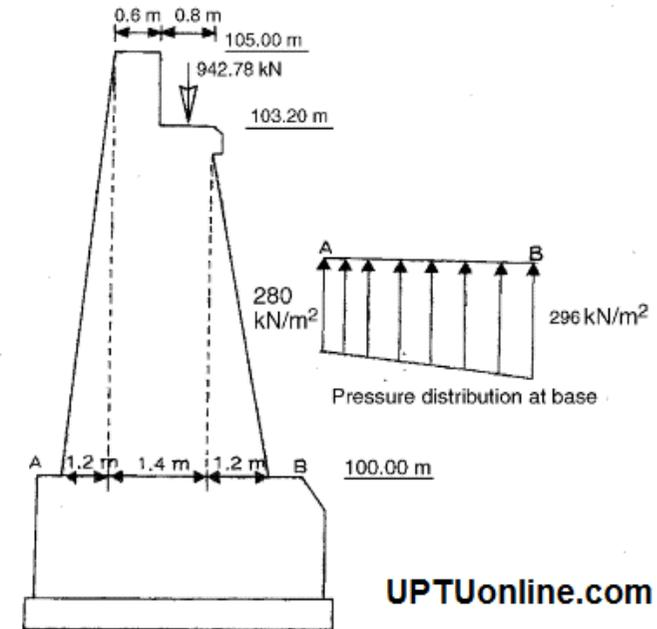

Fig. 5.1.
- a) Verify the stability of the abutment shown in Fig.5.1. The other salient details are given below :